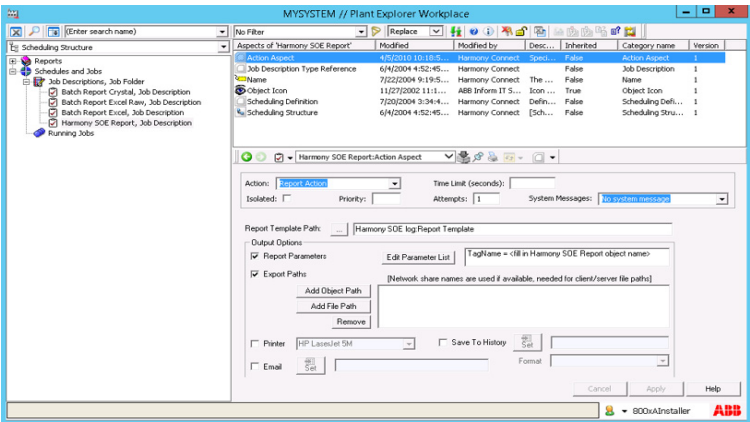

Figure 25. Configuration of SOE Report Job
Reports are defined in the Scheduling Structure. There should be one Job Description for each SOEReport object in the system. First, a job object must be created to set up and configure an SOE report. This object is created in the Scheduling Structure, under **Schedules** and **Jobs > Job Descriptions** (see Figure 25, Configuration of SOE Report Job). This contains the Scheduling Definition aspect.
6. Select the **Action Aspect** (Figure 25) to configure the report action parameters. Select Report Action from the Action drop down list. If desired, a timeout value may be specified, but in most situations the default values for the Time Limit, Isolated, Priority, Attempts and System Messages should be used.